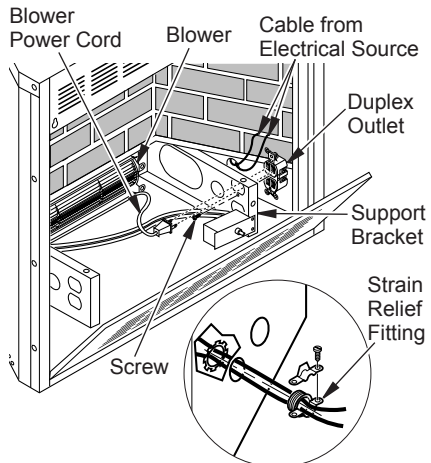

Figure 14 - Connecting Duplex Outlet
2. If using blower, install duplex outlet to the right support bracket in the bottom of firebox (see Figure 14). See *Accessories*, page 31. If not using blower, go to step 7.
3. Route wires from electrical box through smallest hole in outer casing using strain relief fitting provided (see Figure 14).